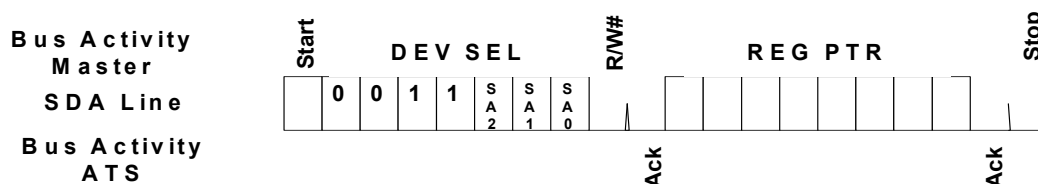

Figure 11 — I2C Bus Write to Pointer Register
Writing to the TSE2004av Temperature Register Set is accomplished through a modified block write operation for two (2) data bytes. To maintain I2C Bus compatibility, the 16 bit register is accessed through a pointer register, requiring the write sequence to include an address pointer in addition to the Slave address. This indicates the storage location for the next two bytes received. Figure 11 shows an entire write transaction on the bus.